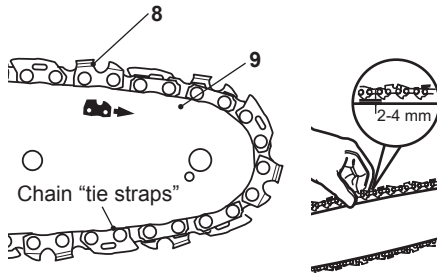
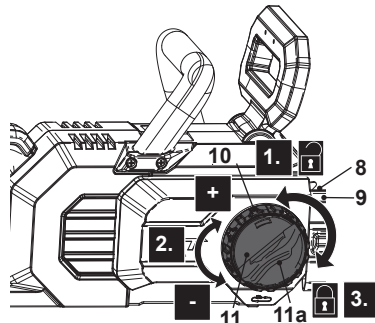

Fig. 7
Fig. 8
1. Place the product on a suitable flat surface with the chain saw cover (12) facing forwards.
2. Check the chain tension using one hand to lift the saw chain (8) against the weight of the product. The correct chain tension is achieved when the saw chain (8) can be lifted by approximately 2 - 4 mm from the guide bar (9) in the centre (Fig. 7).
3. Adjust the tension if you find that the saw chain (8) is too loose or tight.
4. Hold the locking ring (11a) and slightly loosen the locking wheel (11) anticlockwise, then rotate the chain tension wheel (10) anticlockwise or clockwise to adjust the guide bar (9) towards the left or right until the chain 'tie straps' are just touching the bottom edge of the guide bar (9), hold it in the position (Fig. 8, steps 1, 2).
5. Pull the saw chain (8) along the top of the guide bar (9) by gloved hand from one end to the other, several times. The saw chain (8) should feel tight but still move freely.
6. After the adjustment, re-tighten the locking wheel (11) (Fig. 8, step 3).